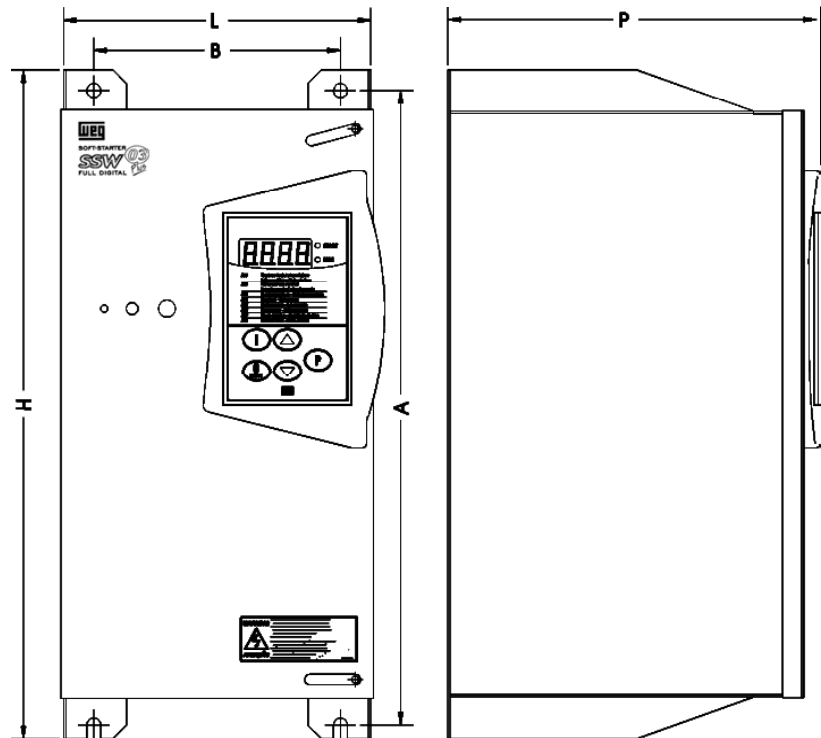

Figure 3.2 - External dimensions for the SSW-03 Plus and its screwing drillings
- ☑ External dimensions, fastenings drillings, etc. according to Figure 3.2.